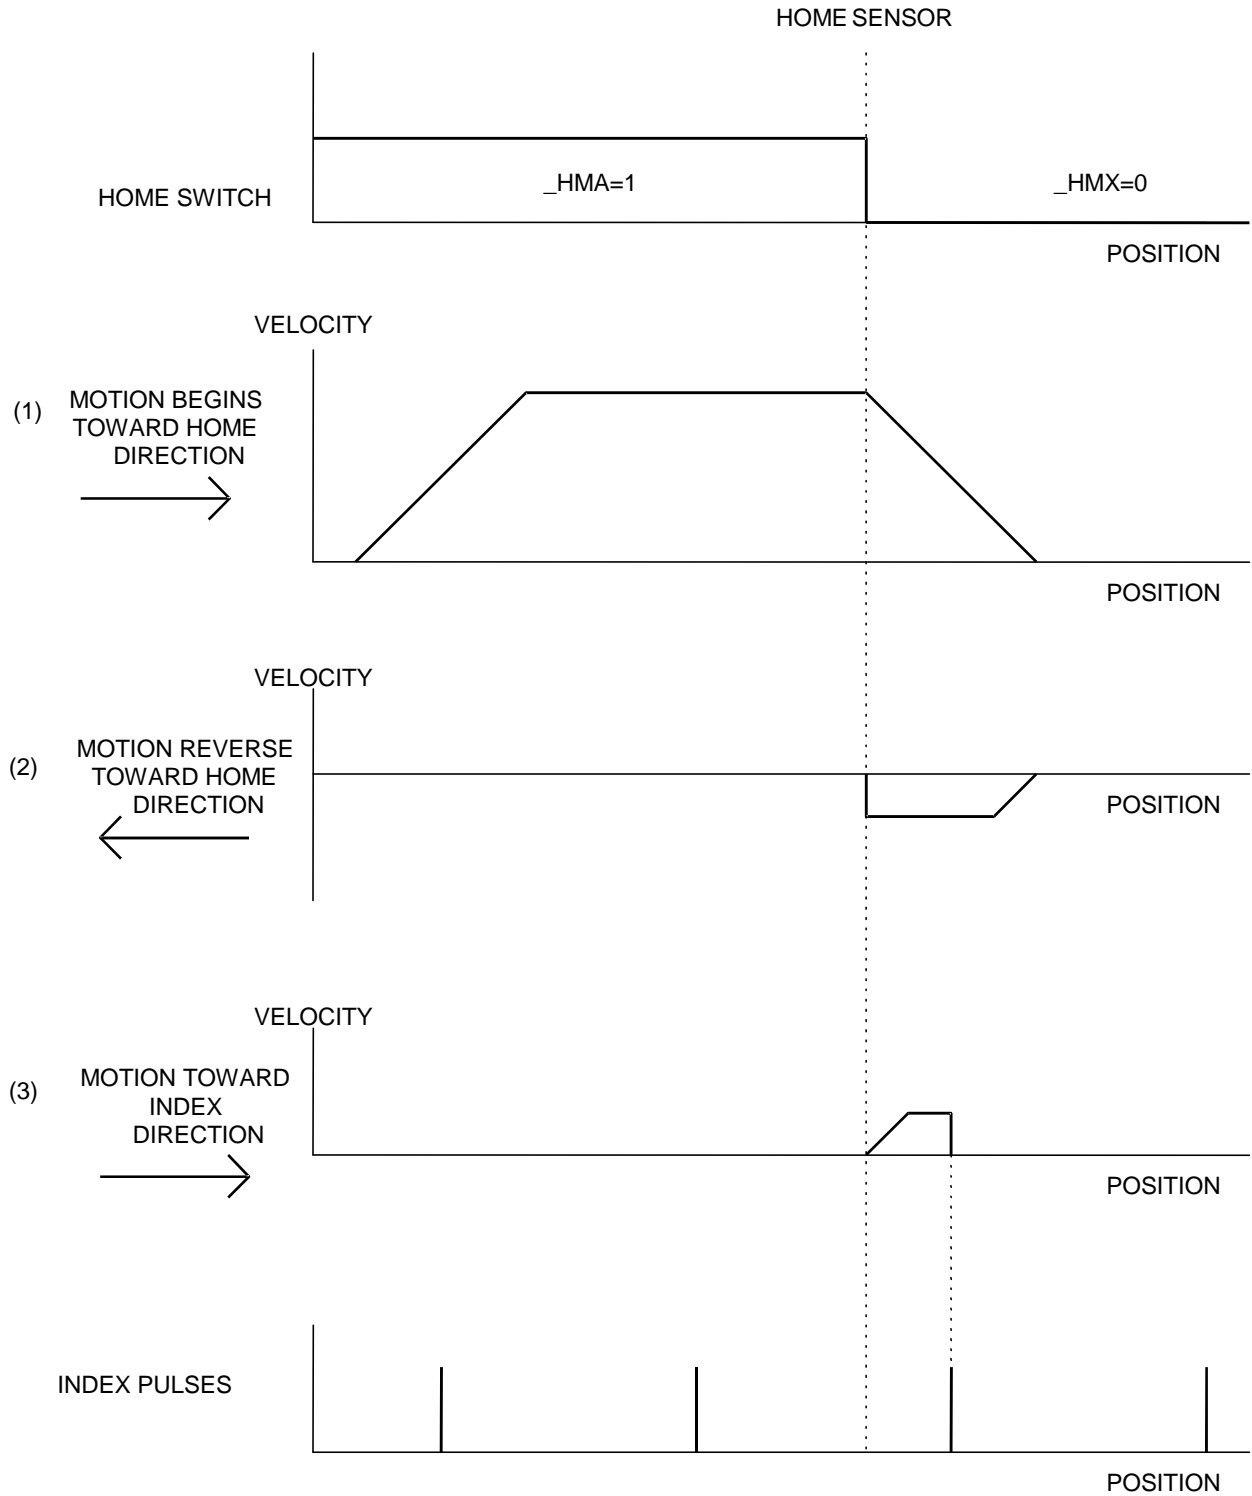

Figure 6.10 - Motion intervals in the Home sequence
The Find Edge (FE) instruction is useful for initializing the motor to a home switch. The home switch is connected to the Homing Input. When the Find Edge command and Begin is used, the motor will accelerate up to the slew speed and slew until a transition is detected on the Homing line. The motor will then decelerate to a stop. A high deceleration value must be input before the find edge command is issued for the motor to decelerate rapidly after sensing the home switch. The velocity profile generated is shown in Fig. 6.10.